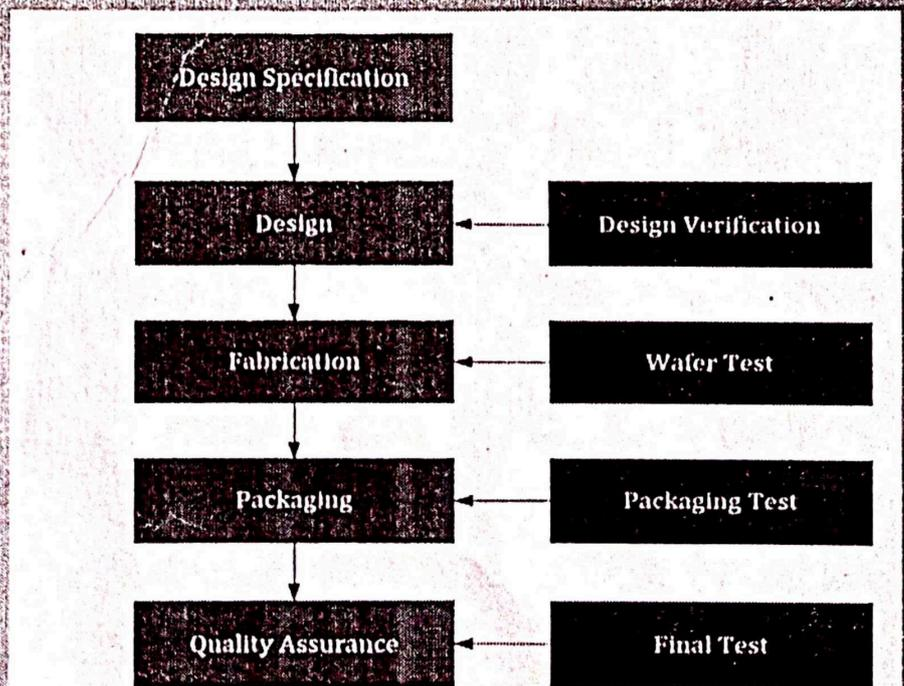

Figure 8-2 VLSI development process (Wang, Wu, & Wen, 2006)
- Figure 8-2 demonstrates a VLSI development process in hierarchies.